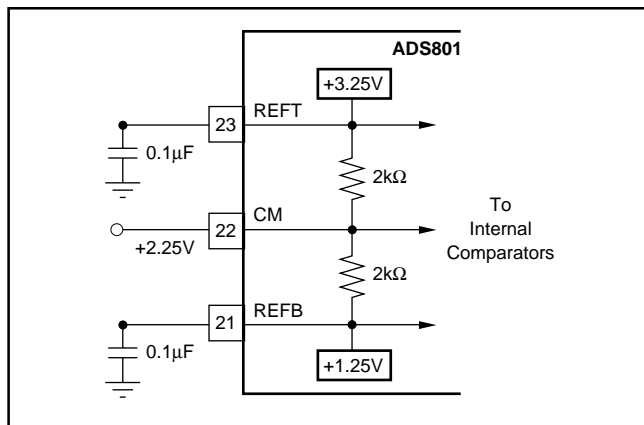

FIGURE 3. Internal Reference Structure.
The analog input of the ADS801 can be configured in various ways and driven with different circuits, depending on the nature of the signal and the level of performance desired. The ADS801 has an internal reference that sets the full-scale input range of the A/D converter. The differential input range has each input centered around the common-mode of +2.25V, with each of the two inputs having a full-scale range of +1.25V to +3.25V. Since each input is 2Vp-p and 180° out-of-phase with the other, a 4V differential input signal to the quantizer results. As shown in Figure 3, the positive full-scale reference (REFT) and the negative full-scale (REFB) are brought out for external bypassing. In addition, the common-mode voltage (CM) may be used as a reference to provide the appropriate offset for the driving circuitry. However, care must be taken not to appreciably load this reference node. For more information regarding external references, single-ended input, and ADS801 drive circuits, refer to the applications section.